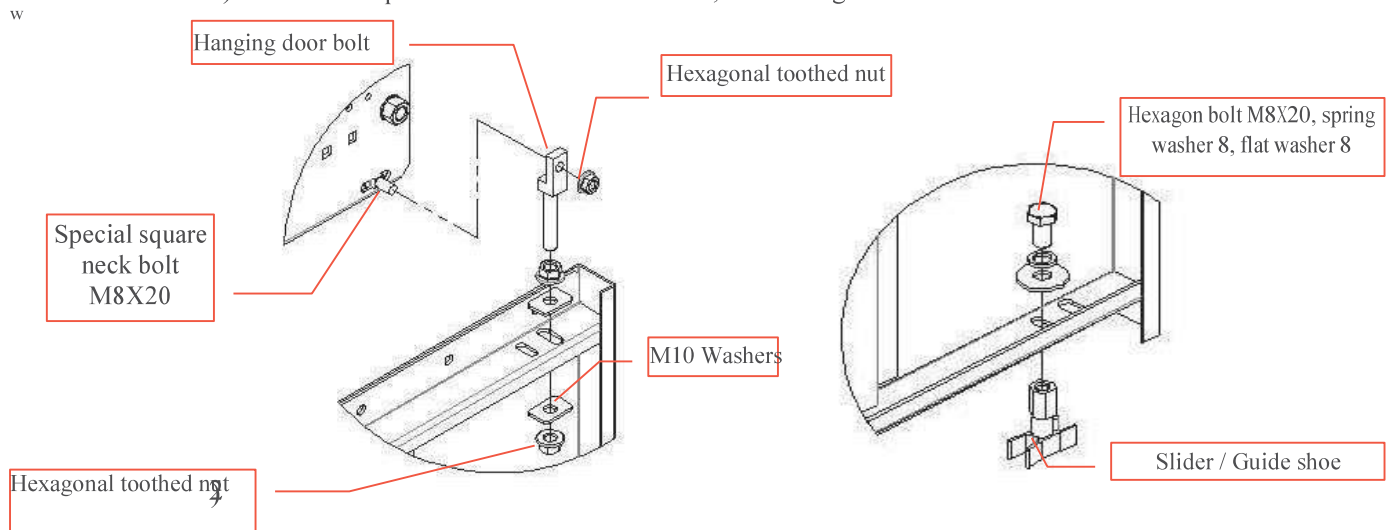

Figure 5-4-1 Installation of Sliders and Hanging Door Bolt
- 1) Car door panels and sliders installation, refer to Figure 5-4-1